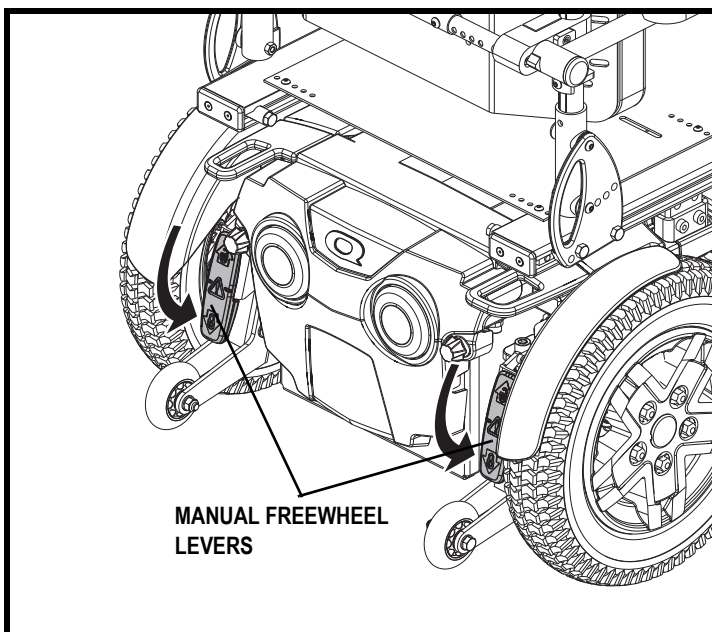

Figure 9. Drive Mode (Drive Engaged)
2. Push the two levers downward to engage the drive motors (drive mode). See figure 9.